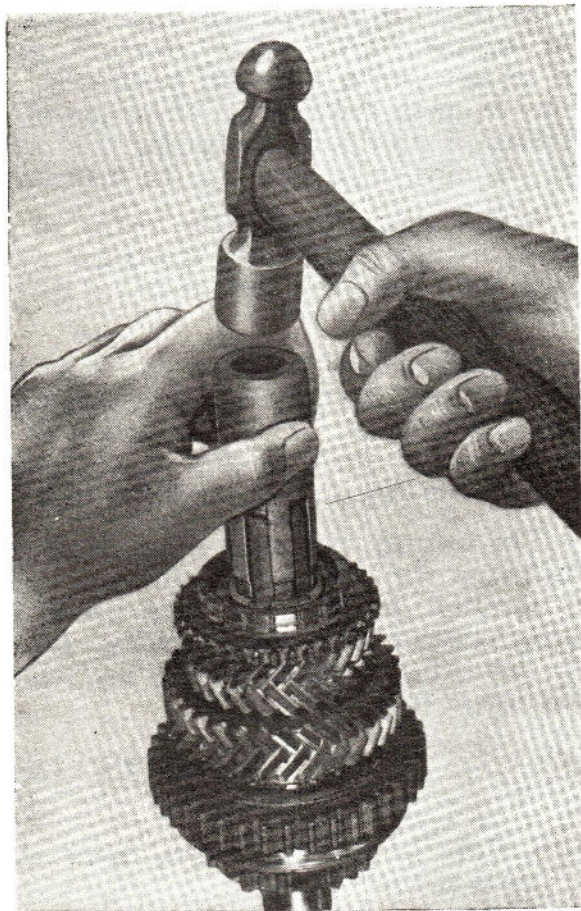

Fig. 41. Using tool T21 to remove mainshaft circlip
16. Top and third synchro unit can now be removed from mainshaft revealing a circlip which retains the other gears on the shaft. This circlip should be removed, preferably with the extractor shown in Fig. 41.